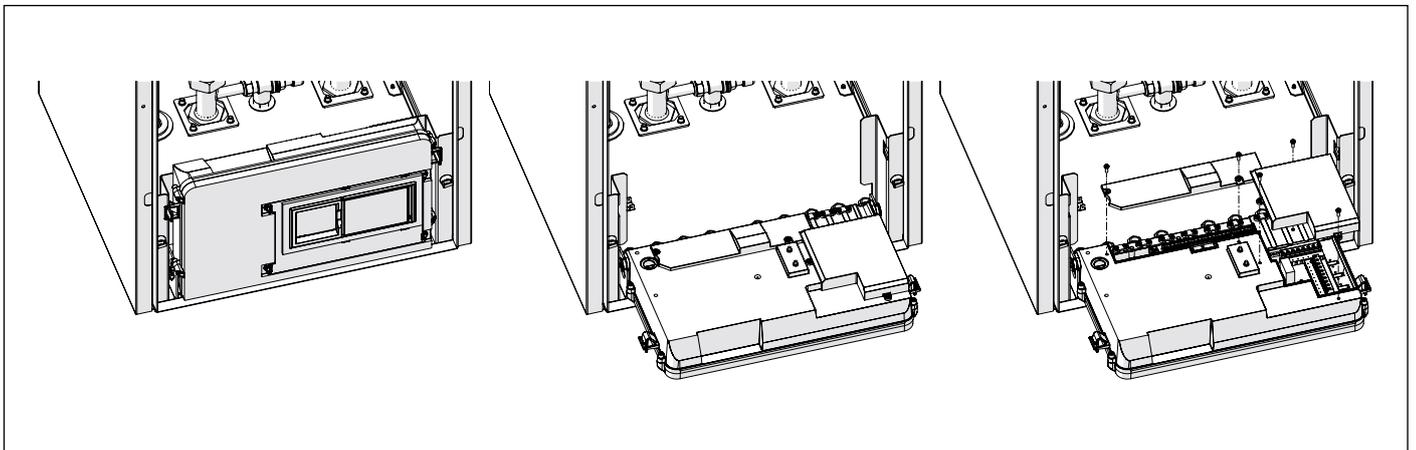

Fig. 27 Electric box
- Rotate the electric box forward by 90° (see Fig. 27 Electric box).
- Remove the two covers of external electrical connections (A and B) by loosening the screws that fasten them to the electric box (see Fig. 27 Electric box).